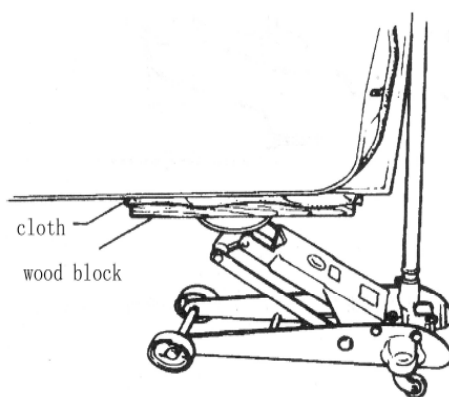

Fig. 18-45
- (1) Front fender;
- (2) Harness terminal;
- (3) Bolt for stopper in the body;
- (4) Bolts for hinge in the body;
- (5) Door assy;
- (6) Holding the door assy by the jack, by using a block between jack and door assy, see Fig.18-45.